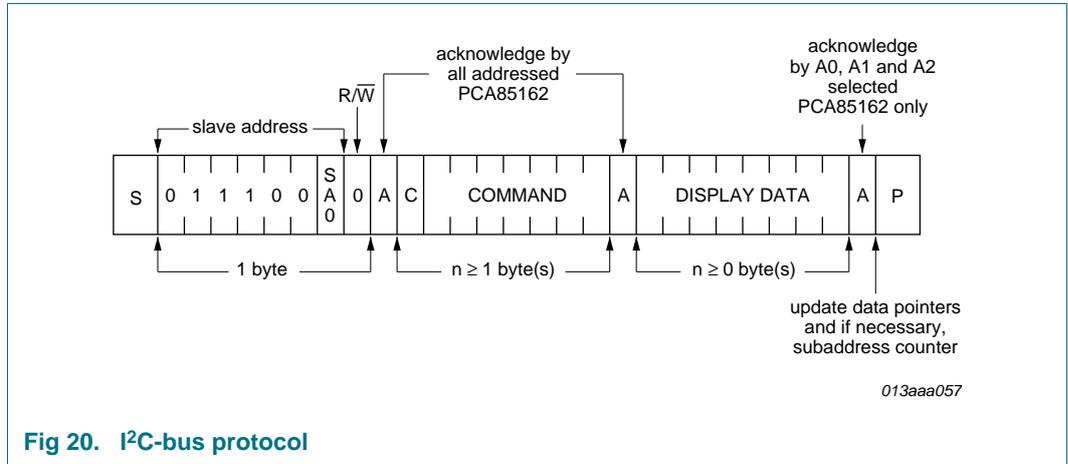

Fig 20. I2C-bus protocol
The I2C-bus protocol is shown in Figure 20. The sequence is initiated with a START condition (S) from the I2C-bus master which is followed by one of the two possible PCA85162 slave addresses available. All PCA85162 whose SA0 inputs correspond to bit 0 of the slave address respond by asserting an acknowledge in parallel. This I2C-bus transfer is ignored by all PCA85162 whose SA0 inputs are set to the alternative level.